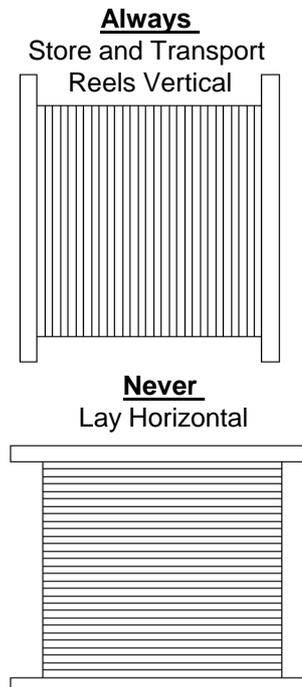

Figure 1
5.3 Transport and store tube cable reels with their flanges vertical at all times. If placed horizontal, the weight of the upper coils can bare down and potentially compress / damage lower coil tubes. **See Fig. 1.**